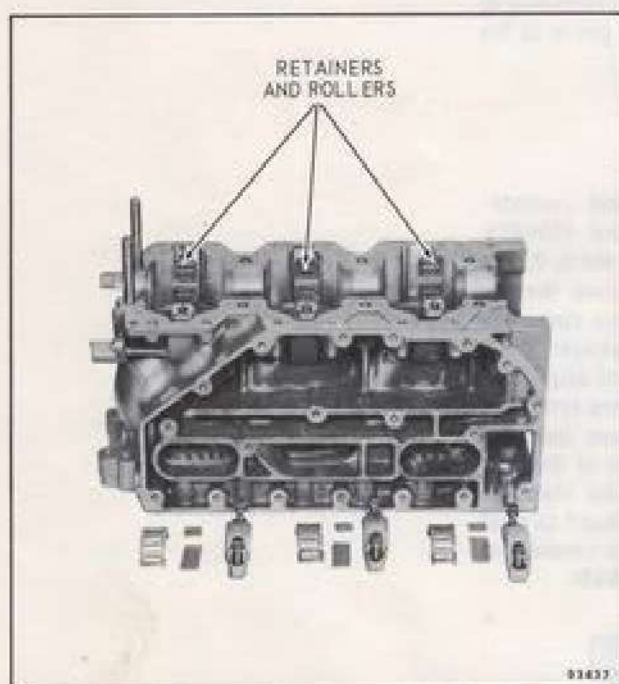

Figure 5-37. Installing Roller Bearings
- c. Remove rod caps from connecting rods. Apply a coat of OMC Needle Bearing Grease (Part Number 378642) to connecting rod bearing area. Place one retainer half and 7 roller bearings on each rod. See Figure 5-37. Do not allow pistons to be pushed out of cylinders.